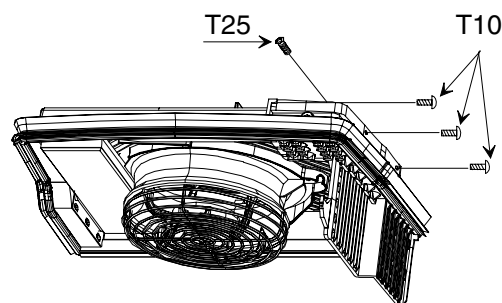

Figure 6. VMFA cooling fan assembly mounting screws
1. Remove and retain the fan assembly holding screws as follows (see Figure 6):